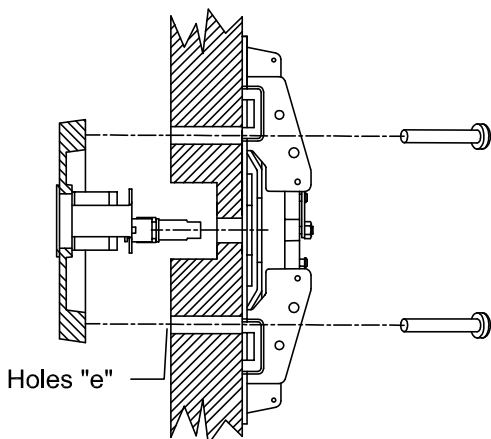

Fig. 11 Optional wood door shown
4. (Fig. 11 & 12) With the key out of the cylinder, align the tailpiece extension into the backplate's trim cam on the inside door face. Using "e" holes, fasten the trim to the backplate with 1/4-20 machine screws. Three screw lengths are provided for varying door thicknesses.